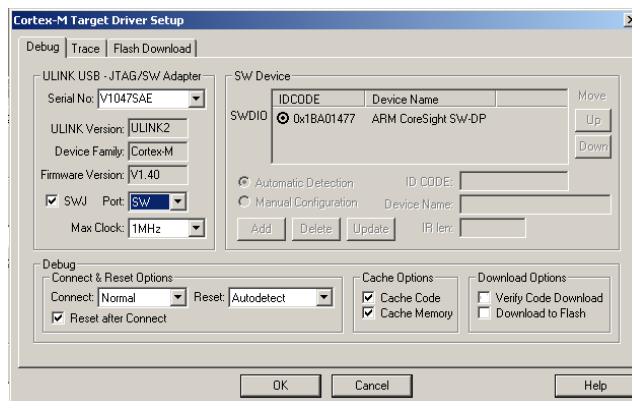

Figure 5: Selecting SWD Mode
You must use Single Wire Debug (SWD) mode to use Serial Wire Viewer. This is configured in μ Vision as shown in Figure 5. You must first have a ULINK connected to a Cortex-M3 target.
- 4) Click Settings beside the USE: ULINK Cortex Debugger box to open Figure 5.
The box labeled SW Device (or labeled JTAG Device Chain if JTAG is selected) in Figure 5 will display the CoreSight devices detected in the processor or an error if none are found.
- 5) Select SWJ and SW in the Port: box. Confirm SW-DP is shown as in Figure 5. You must see SW-DP before you continue to Step 6.
Figure 5 shows that the ULINK is now successfully been connected to the CoreSight SWD port.